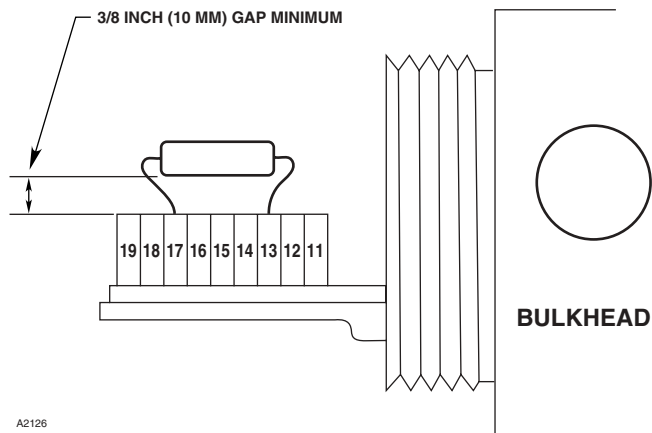

Figure 4—X3301 Terminal Block
- Figure 4 shows the wiring terminal strip located inside the detector's integral junction box.